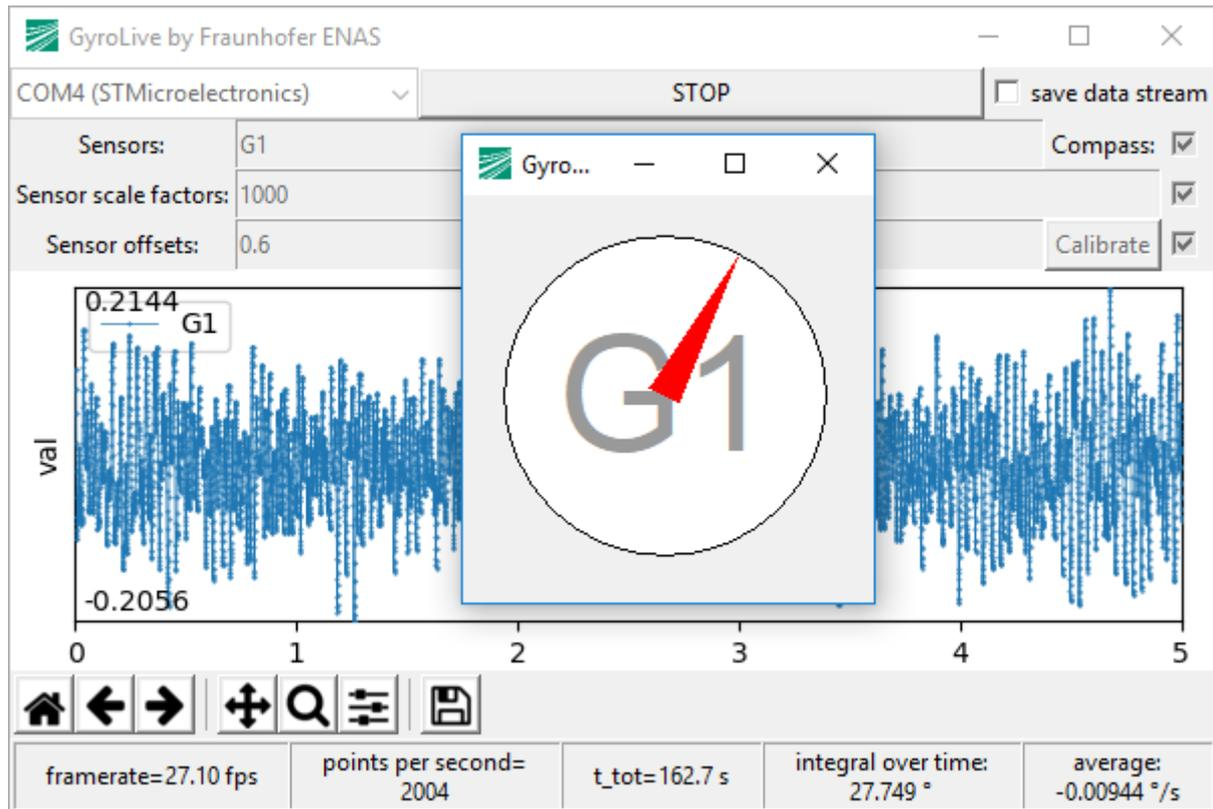

Figure 4: screenshot from a readout with compass activated
- vii. After calibrating and scaling the signal, the total angle is shown by activating the 'Compass'. It shows the integral over time of the angular rate resulting in the total angle. (Figure 4)